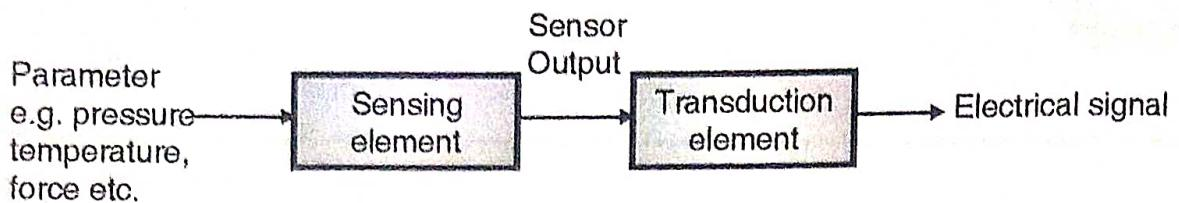

Fig. 1.2.2 : Transducer block diagram
- Fig. 1.2.2 shows block diagram of a transducer.